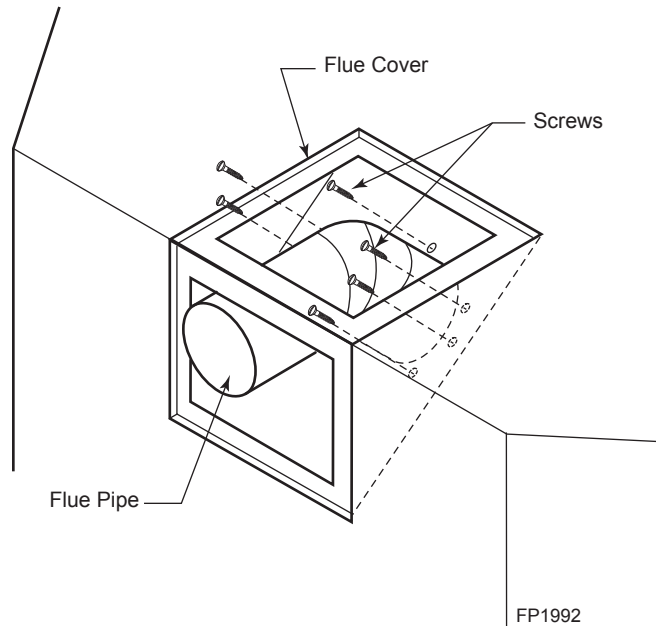

**Figure 7 -
1. Remove the eight (8) screws securing the flue pipe adapter to the fireplace body. *Figure 7*
3. Remove the eight (8) screws securing the flue pipe cover to the top of the intake box and remove the cover and gasket. *Figure 7*